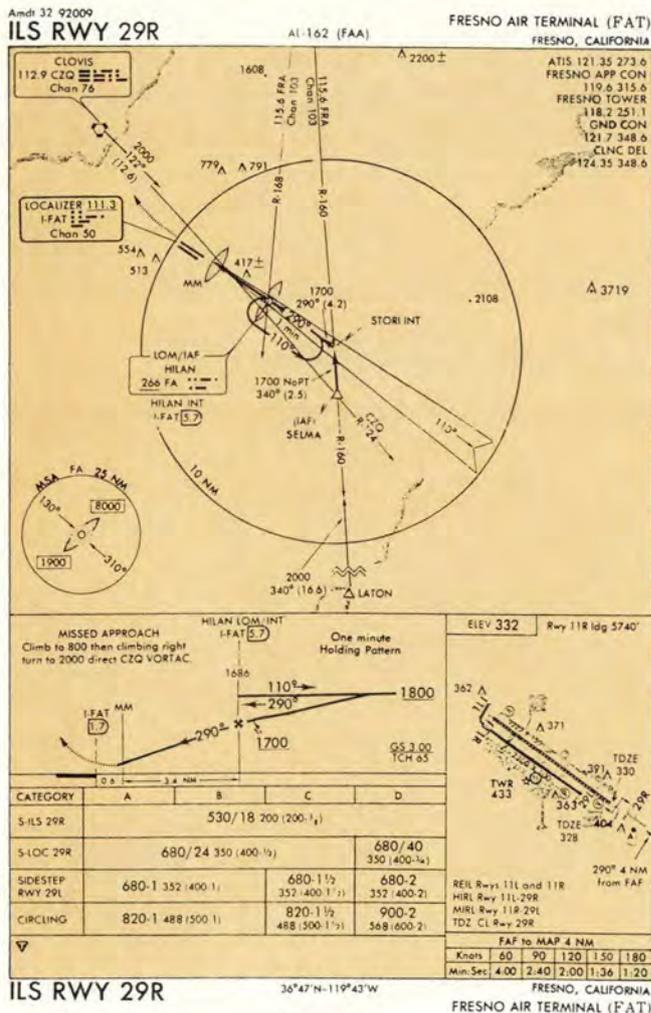

Figure 1
**ANSWER:** You are partially correct. We'll use the low (figure 1) and high (figure 2) IAPs into the Fresno Air Terminal, California, to answer the question. *Book #4* of the Interagency Cartographic Committee provides the specifications for designing all low IAPs. All high IAP specifications are in *DOD Product Specifications 1FA/091 (PS/1FA/091)*. Both of these books specify when the plan view of an IAP contains only one ring. Everything in the plan view is to scale.
Looking at figure 1, the ILS RWY 29R at Fresno, there is only one circle in the plan view, so everything is to scale. There is one exception to this rule, and we see it depicted at the LATON fix. Where a distance cannot be depicted to scale, a double jagged line crosses the radial indicating the distance is not to scale. Where there are concentric circles
**ANSWER:** Again the *book #4* and *PS/1FA/091* allow for differences. The low-altitude approach (figure 1) is titled ILS RWY 29R. DME is not mentioned in the title and is not necessary for flying the final ap-